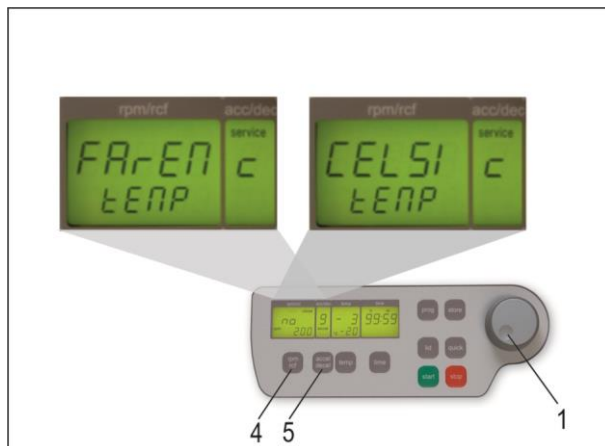

Figure 8
Proceed as illustrated under point 1.9.1. to enter this program mode, press the key "accel/decel" (5). In the display "accel/decel" (A-2) appears the word "service". Select the letter "C". with the adjustable knob (1). As a result appearing in the display "rpm/rcf" (A-1) are the words "CELSI/temp". By pressing the key "rpm/rcf" (4) the word "CELSI" flashes. This allows you to change the display into Fahrenheit "FAREN". with the adjustable knob (1) (see Figure 8).